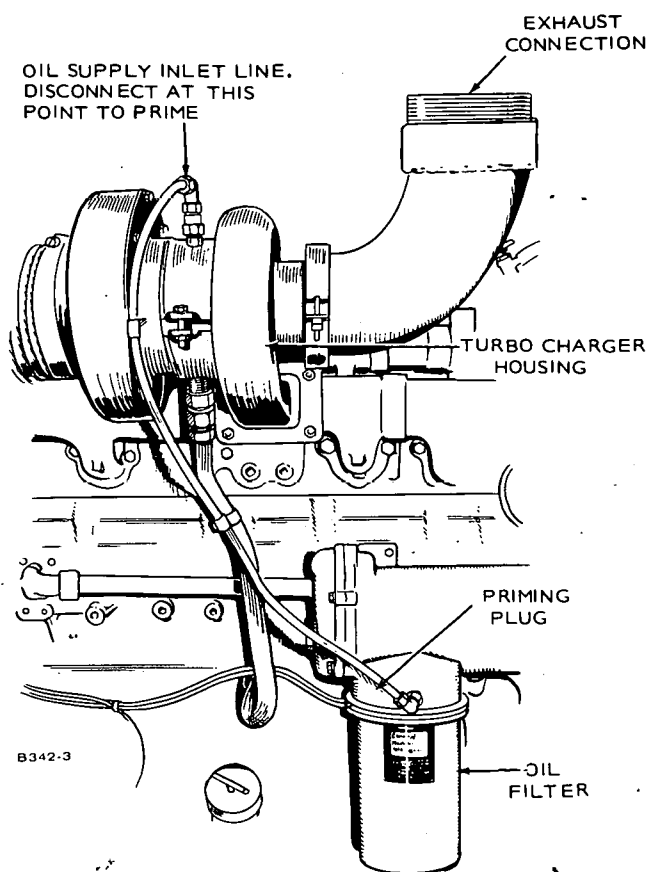

FIGURE 21. PRIMING TURBOCHARGER
1. Remove oil inlet line from turbo-charger housing (Figure 21), fill bearing housing with clean engine lubricating oil; replace line, secure.
3. Remove plug from head of oil filter housing (Figure 21) and connect a hand or motor-driven priming pump from a source of clean lubricating oil to the plug boss in filter housing.